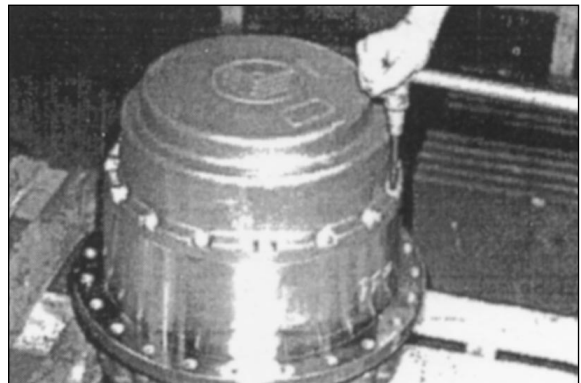

Figure 77
15. Remove 16 socket bolts (M14 x 40). Figure 77.